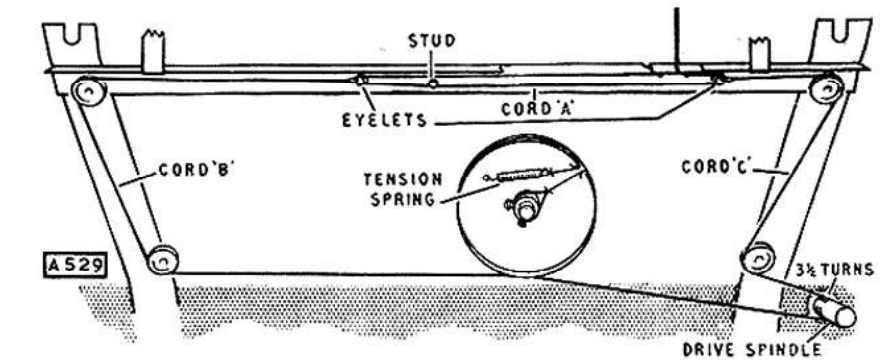

Fig. 5. The tuning drive.
Three separate cords are arranged as shown in Fig. 5 and a total length of about 6 feet should be allowed. The drive drum is shown in the position it should occupy when the gang is closed. First tie cord A to the stud, forming a loop which should measure $6\frac{3}{4}$ inches from centre to centre of the eyelets. Attach cord B to drive drum bush and at a distance of 22 inches, tie to left-hand eyelet within loop (cord A). Pass cord B round drum and pulleys as shown. Tie a further cord (C) to right-hand eyelet in loop, pass it over the pulleys, make $3\frac{1}{2}$ turns clockwise round drive spindle and return it to the drum, attaching the end of the cord to the tension spring as shown. Attach the cursor, adjusting its position so that the left-hand edge of the cursor carriage coincides with the centre of the extreme right-hand hole in the guide bar when the gang is at maximum.